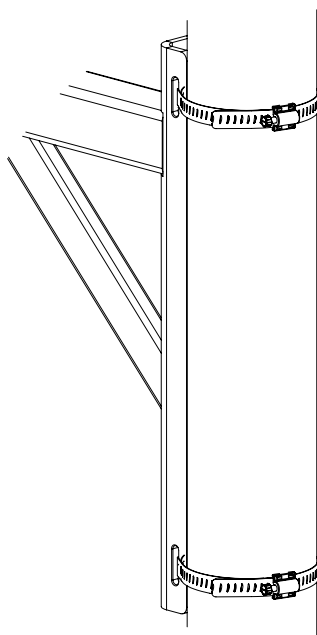

Figure 4
**Step 4:** Repeat steps 1 to 3 for the lower banding strap assembly (*Figure 4*).